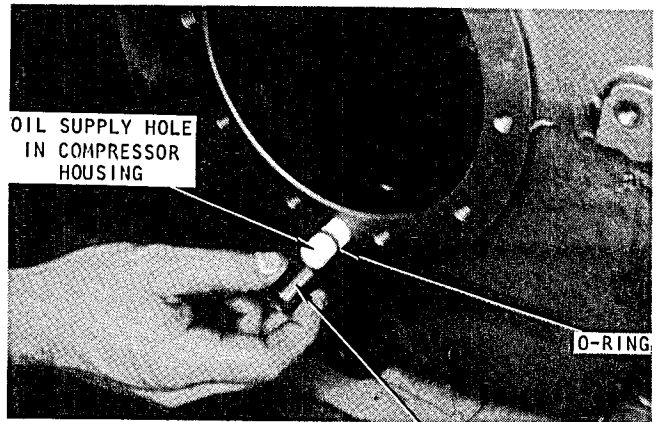

Figure 56
- Reach inside the housing and push the oil strainer toward the bearing head end of the housing. Pull the sleeve and "O" ring off the end of the oil strainer tube (Figure 56).
- Place the oil strainer in the crankcase (must be positioned between casting webbing in bottom of crankcase) and insert the tube in the housing hole. Push the strainer toward the bearing end of the housing so the tube protrudes as shown in Figure 56.